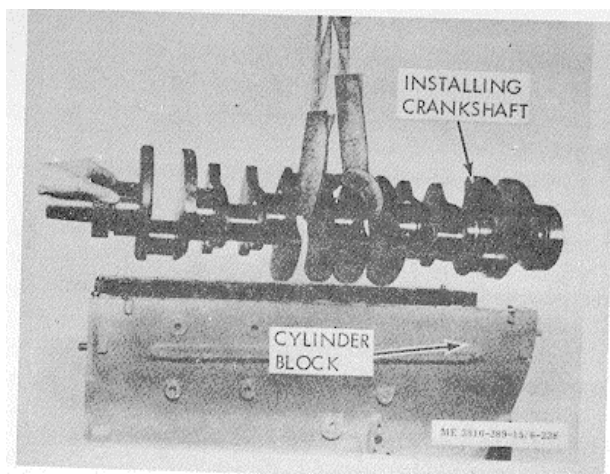

Figure 3-229. Crankshaft installation.
(7) Lift crankshaft over cylinder block, using a rope sling or hooks protected with rubber hose; lower crankshaft carefully into place (fig. 3-229).
(8) Roll upper thrust rings onto position, being certain that babbit or grooved sides are facing crankshaft flanges.